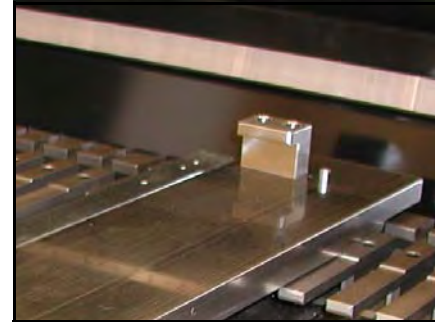

Figure 2-17—The Panasonic Feeder Bank Adapter has a hook and a pin.
1. Slide RoadRunner under the hook on the Feeder Bank Adapter so that the RoadRunner centering plate teeth engage the pin next to the hook. See Figure 2-17.